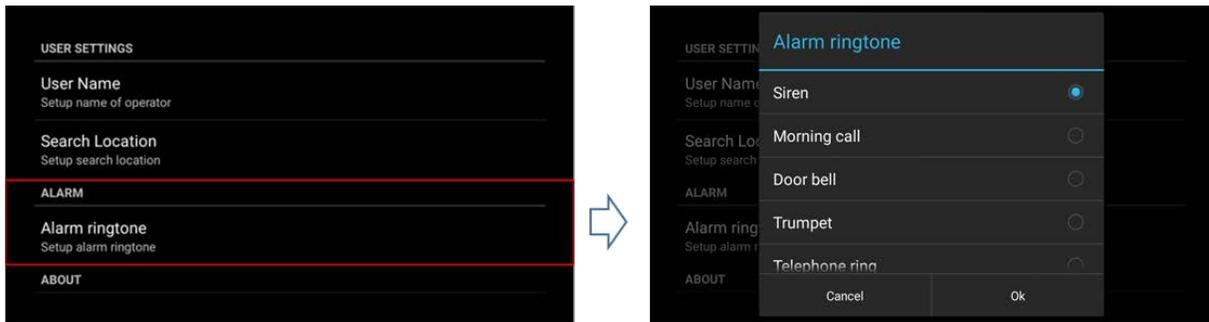

Figure 5.5. Select ringtone
The SAM 950 provides five alarm ringtone options as shown in Figure 5.5. below.
1. Select 'Alarm ringtone' (figure 5.5)